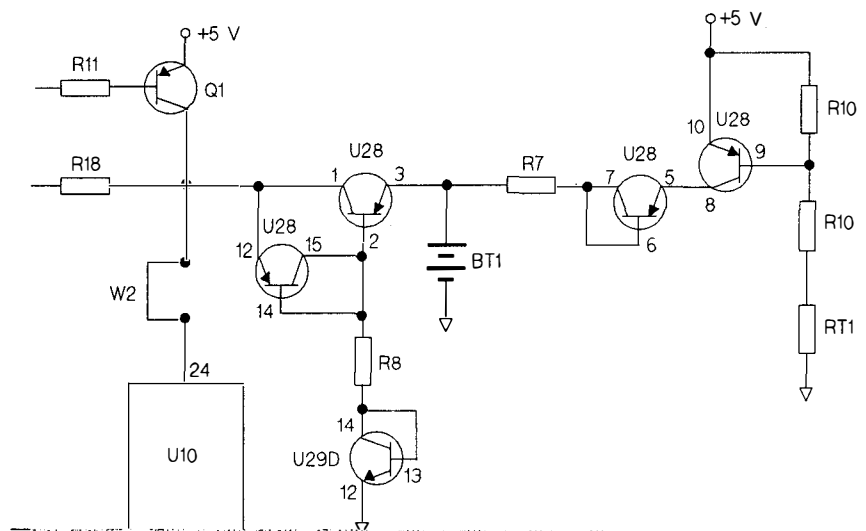

Figure B-7. 08116-66533: U28 schematic
5. Figure B-7 shows the RAM battery supply circuit on microprocessor board 66533, modify Figure 10.7-5 accordingly.